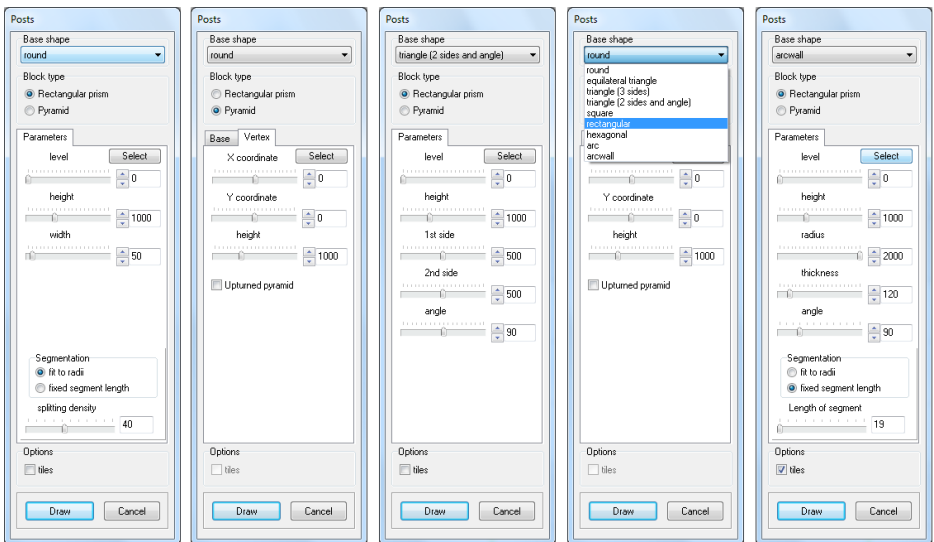

Fig. 127 – various variants of options available in Posts dialog
Posts and walls (under icon ) are used for creating basic solids without preparing templates for them. They are cuboids or pyramids of different bases (also: upturned pyramids). This function of dynamic 3D modeling can be used for creating various decorative elements. Posts, columns, pilasters and partition walls are created on the basis of a single point, indicated by the user directly after clicking the **Posts and walls** icon, and setting the parameters defined in the window displayed below (Fig. 127).
- in the new dialog box (Fig. 127) choose the type of the post and define its parameters (there are two main types to choose from - cuboid (default) and pyramid, and a number of various basis: round, square, triangle etc.);